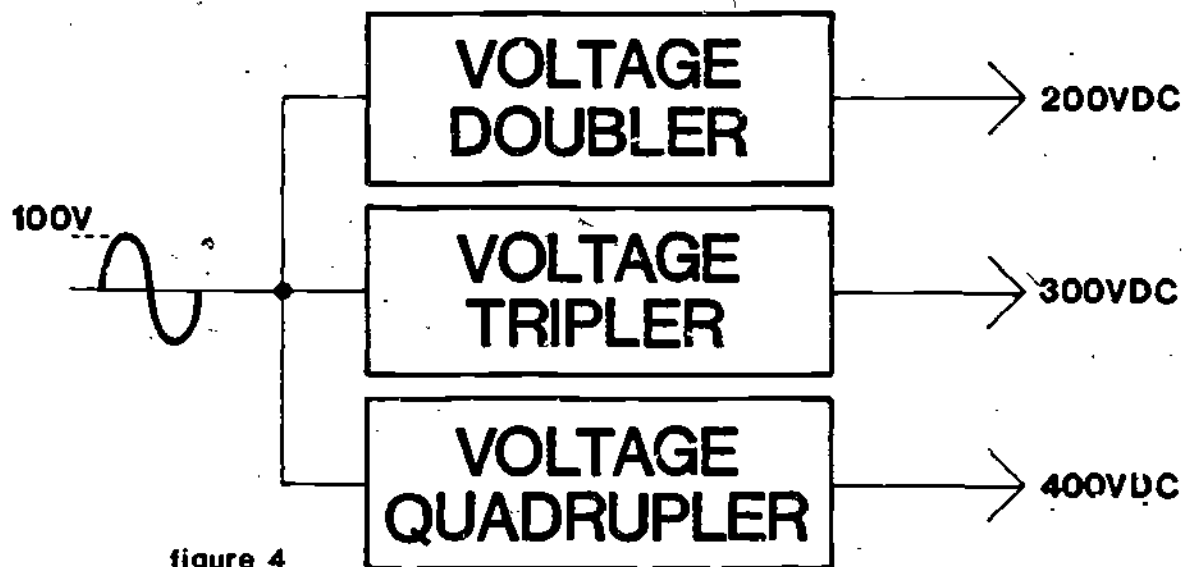

figure 4
- ② Voltage multipliers are classified as voltage doublers, triplers or quadruplers depending on the relationship of the output voltage to the input voltage. See Figure 4.